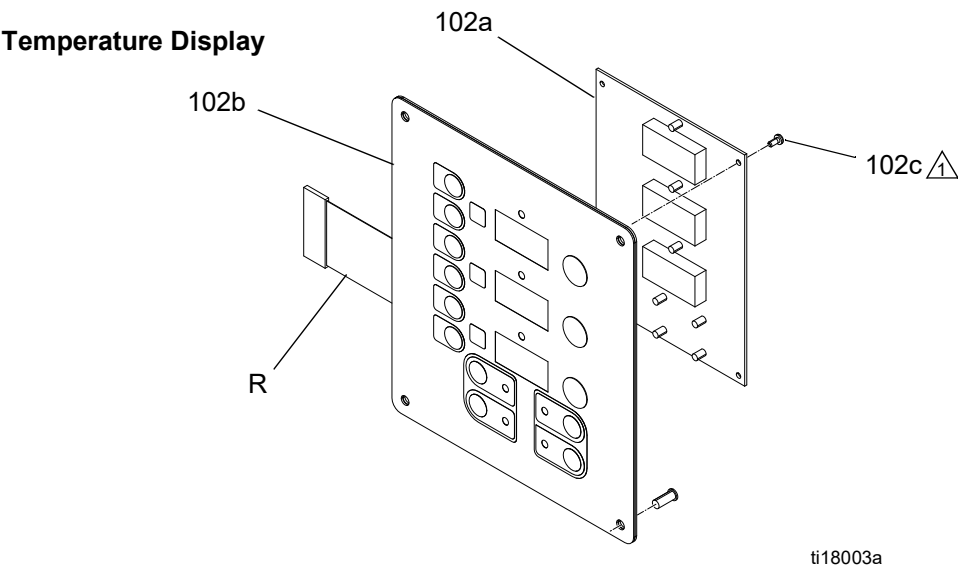

FIG. 17. Display Module
5. Disconnect main display cable (106) at lower left corner of display module; see FIG. 17, page 40.
6. Remove screws (116) and cover (105); see FIG. 17, page 40.
7. Disconnect cable connector from back of temperature display (102). See FIG. 17, page 40.
8. Disconnect ribbon cable(s) (R) from back of display; see FIG. 17, page 40.
9. Remove nuts (103) and plate (101).
10. Disassemble display, see detail in FIG. 17, page 40.
12. Move jumper (119) to J1 on replacement display board. See FIG. 17, page 40.
13. Reassemble in reverse order, see FIG. 17, page 40. Apply medium strength thread sealant where shown. Be sure display cable ground wire (G) is secured between cable bushing and cover (105) with screws (107).